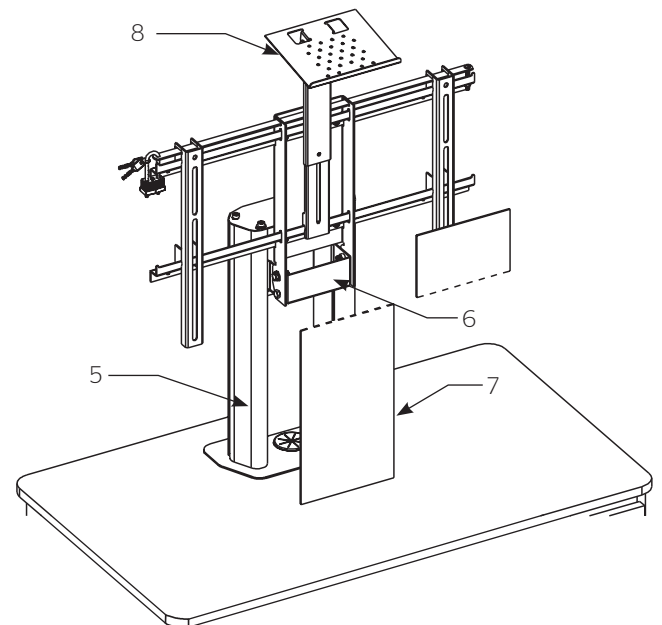

Figure 9
- Determine height needed for monitor and adjust mount to proper height. Trim Plastic Cover to match height of open area between the Columns and underneath Mount Support Bracket. Bend Plastic cover and install between the Columns. See Figure 9.